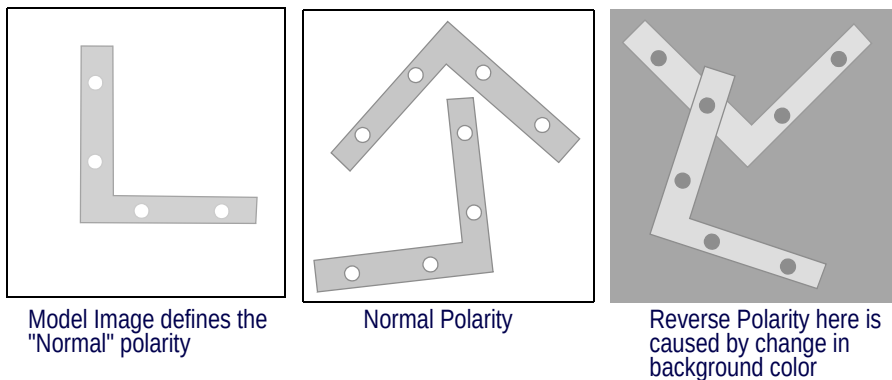

Figure 160 Contrast Polarity - Normal and Reverse
- **Reverse** restricts the Locator to search only for objects having a object-to-background polarity that is inverse to that in the Model. For example, if the model is a dark object on a light background, the Locator searches only for light objects on a dark background (see Figure 160Figure 160).